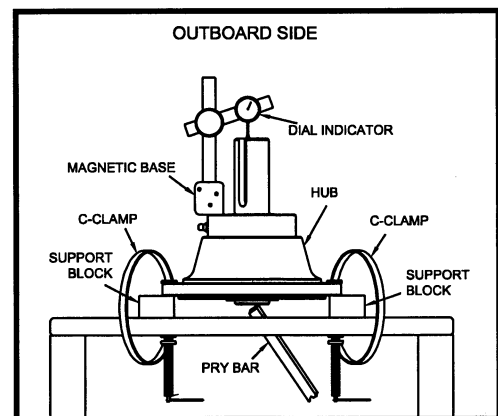

Figure 6.4.1 Setting Axial Bearing Clearance
1. Support housing to allow the shaft to rotate freely (**reference Figure 6.4.1**).
2. Affix the hub to the support table with C-Clamps or bolting to table (**reference Figure 6.4.1**).
5. Affix the magnetic base of the dial indicator to a flat area of the housing (reference Figure 6.4.1).
8. With a pry bar, push the inboard end of the shaft up (reference Figure 6.4.1).